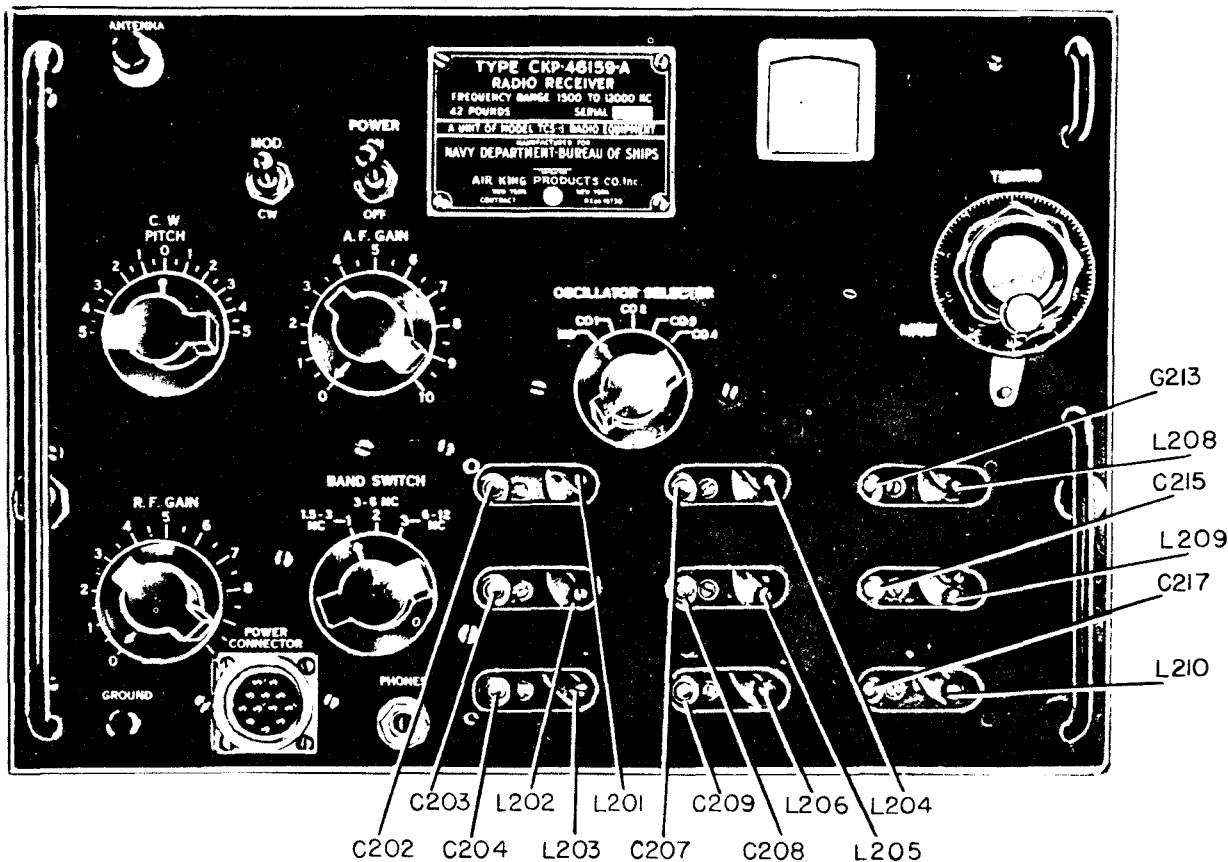

Figure 7-26 Receiver Front Panel with Chart Removed Showing Trimmers
(1) Repeat steps (1) to (5) inclusive of the intermediate-frequency alignment procedure and place the OSCILLATOR SELECTOR switch S202 in the "MO" position.
(2) Connect the dummy antenna specified (10-ohm non-inductive resistor in series with the 100-micro-microfarad capacitor) between output lead of the signal generator and receiver ANTENNA terminal E201.
(3) Remove the tuning chart from the front panel of the receiver, exposing nine slots in the panel that give access to the trimmers requiring readjustment. Loosen the capacitance-trimmer lock nuts on C202, C203, C204, C207, C208, C209, C213, C215, and C217. (See figure 7-26.)
(4) Place POWER switch S205 in the "ON" position.